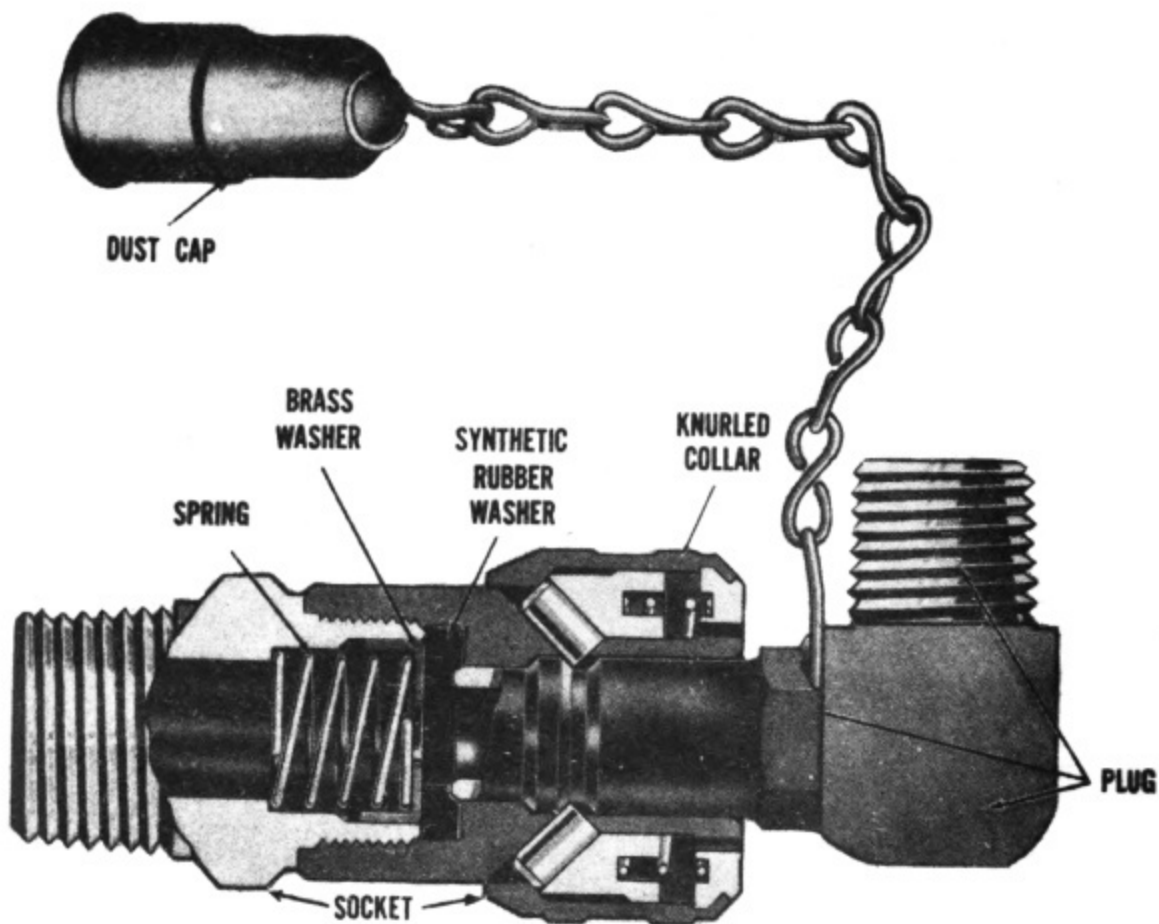

FIGURE 35.8. (Added.) Cutaway view of socket and plug. Disassembly is permitted only as directed in paragraph 66.1.
- 6 Springs, R81-1-922 (for socket). (See fig. 35.8.)
- 6 Washers, backing, R81-1-924 (brass washer for socket). (See fig. 35.8.)
- 12 Washers, B81-1-923 (synthetic rubber washer for socket). (See fig. 35.8.)
(1) *Worn washer.* Replace synthetic rubber washer by disassembling socket (fig. 35.8), prying out washer, placing new washer in position, and reassembling socket.